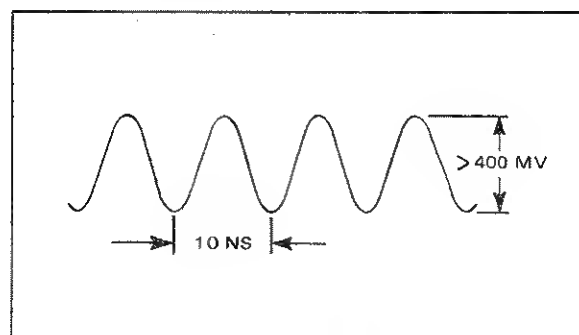

Figure 5.2 - 100 MHz Signal
- b. Monitor TP3 and adjust C30 for an oscilloscope display of maximum amplitude at 100 MHz, as shown in figure 5.2.